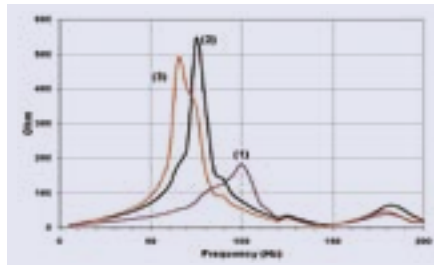

Fig. 8: Frequency scans at substation 'WB' for asymmetric network operation.
Therefore, any frequency-domain analysis should consider all sequence impedances of the network. The frequency scan [1] for the sum of network positive, negative and zero sequence impedances seen at substation 'WB' is shown in figure 8 during three stages of asymmetric operation of the network; (1) start of short circuit at 'FT' with resonance frequency of 100 Hz, (2) opening breaker 'XB' with resonance at exactly 77 Hz and (3) after fault clearing where the impedance resonance moves to 65 Hz but has an additional peak at 77 Hz. Due to the 50 Hz carrier frequency effect of the AC system, a 77 Hz resonance in the frequency domain shows as (77+50) 127 Hz in the time domain. Similarly, the 100 Hz resonance frequency shows as 150 Hz in the time domain. The damping of such resonances is approximately inversely proportional to the peak impedance. It is clear that the 77 Hz resonance is dominant, whereas the 100 Hz resonance is well damped.